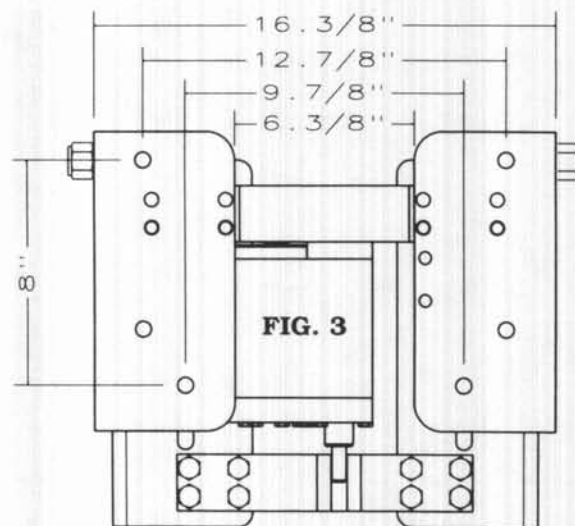

FIG. 1
Step 4: Swing motor away from boat taking care not to damage any wires or cables. (Fig. 1)